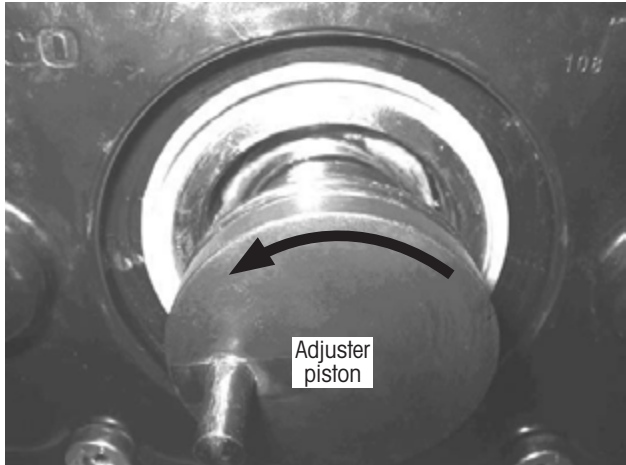

Figure 73: *Rotating adjuster*
8. **Manually turn** adjuster piston counterclockwise about 1.18" (30 mm) out of the brake caliper (Figure 73).